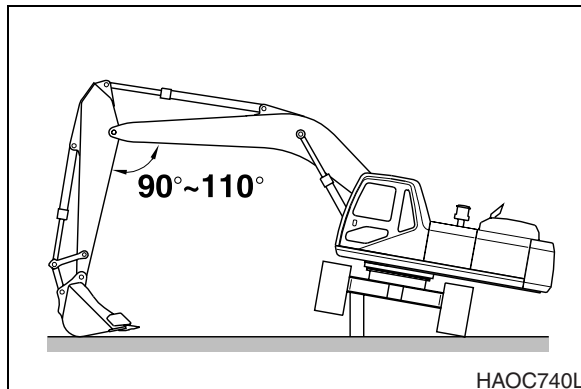

Figure 1
1. Track tension is checked by jacking up one side of the excavator. See Figure 1. Place blocking under frame while taking measurement.